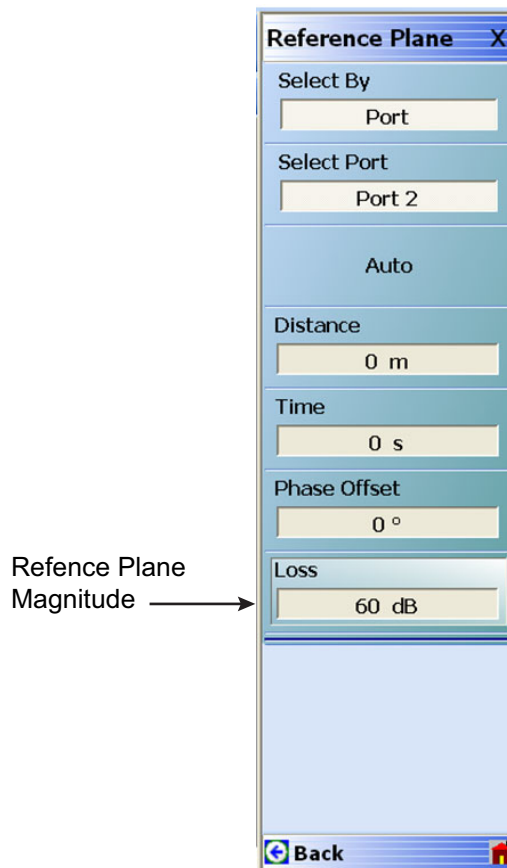

Figure 2-6. Reference Plane Settings
2. Set the reference plane magnitude to correct for the intended power level (–60 dB in this case) as shown in Figure 2-6. The resulting data then represents an error from the ideal power level and helps to describe the actual source power in a nominal bandwidth of interest.